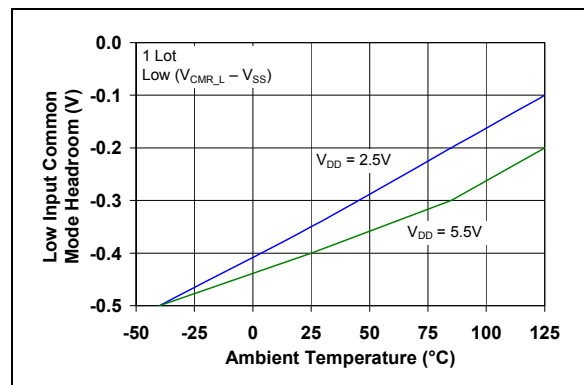

FIGURE 2-6: Low Input Common Mode Voltage Headroom vs. Ambient Temperature.
- 2: See Figure 2-6 and Figure 2-7 for temperature effects.